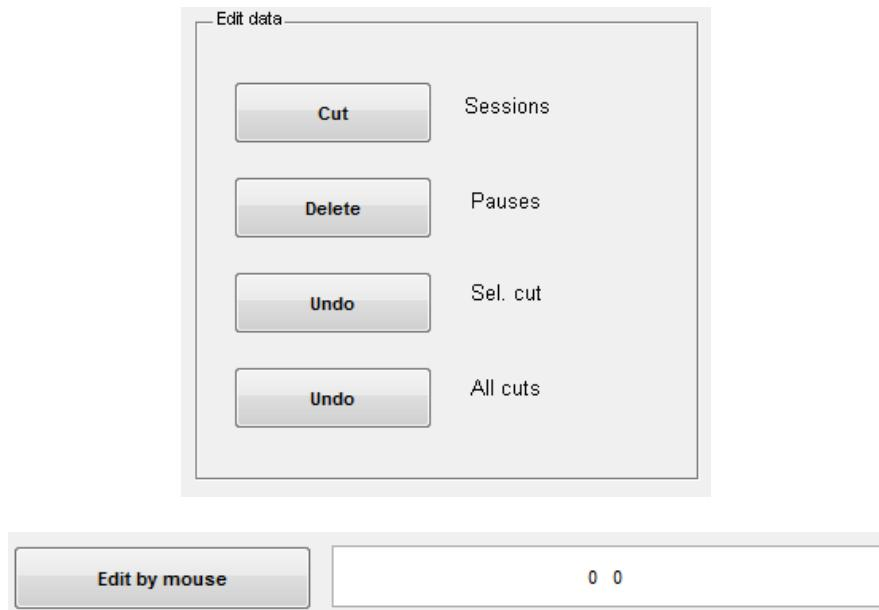
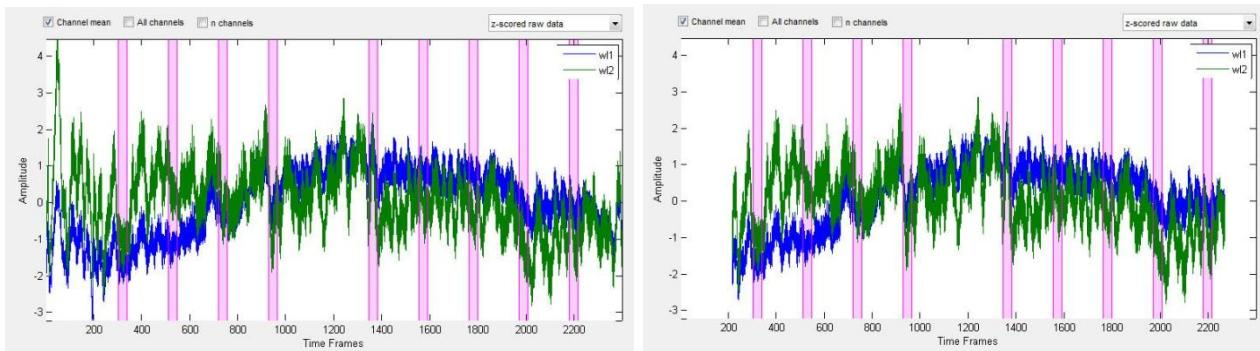
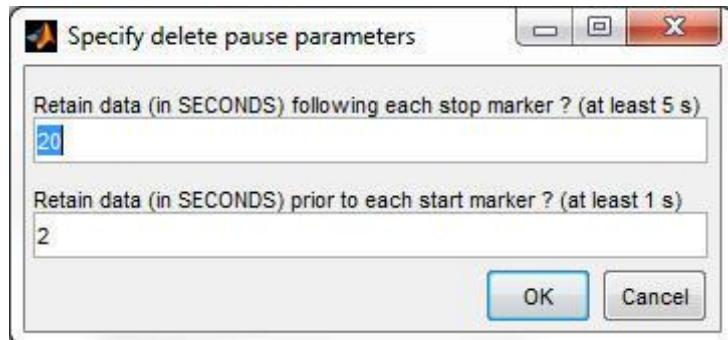

Figure 3-9. Detail views of the ‘Edit data’ module (top) and ‘Edit by mouse’ controls in the *Truncate Time series* GUI (Figure 3-4).
Figure 3-11. Time series displayed in the plot window before (left) and after (right) truncation of the first 199 and last 88 time frames.
Figure 3-15. Example of the pop-up window that opens when the *Delete Pauses* button (see Figure 3-17) is clicked.
The functions that are accessed through the 'Edit data' module and the 'Edit by mouse' controls (all shown enlarged in Figure 3-9) allow you to remove time intervals that are not relevant to you. In cases where one or more interior time intervals are removed, the data on either side of the cut are merged together into a new, shorter time series. (This is where the 'View edited TS' and 'View merged TS' options alluded to in Section 2.2 become relevant.)
As pointed out in Chap. 1, Section 4.1, the nirsInfo file keeps track of all changes that you make, and this includes truncations of the data. Consequently, you will always be able to “undo” (see Figure 3-9), either in the current nirsLAB session, or in a subsequent one, any data truncations that you perform. Furthermore, the results of all operations performed by nirsLAB are stored in the nirsInfo file or in other, new files that are generated during the data-processing sequence. The original imager-generated files ('_config.txt', '.evt', '.set', '.wl1', '.wl2') are read but never modified.
- If there are time intervals that you want to remove from either end of the data time series (e.g., initial or terminal baseline segments, as described above), click on the *Cut Sessions* button seen in Figure 3-9 to cause a pop-up window such as the ones shown in Figure 3-10 to open; notice that the time unit will match the one that you have selected in the ‘Plot options’ module. In addition, the default numerical values in the two fillable fields are equal to the amount of time that precedes the first Start marker (first row) and follows the last Stop marker (second row). (For the demo data set considered here, there are 299 measurement frames before the first Start marker and 188 following the last Stop marker. And at the 3.47 frames-per-second sampling rate, these correspond to approximately 86 and 55 seconds) That is, the default setting is that no data points should be truncated from either end of the time series.
changes in the manner shown in Figure 3-11 (where the ‘Channel mean’, ‘Markers: off’, and ‘z-scored raw data’ plot options have been selected). When you click on a row in the ‘List of All Edited time Ranges’ field (Figure 3-12), the corresponding time interval is highlighted in the plot window, as shown in Figure 3-13. If it turns out that the highlighted time interval is not actually the one that you wanted to truncate, you can cancel it by clicking on the *Undo Sel. Cut* button in the ‘Edit data’ module (Figure 3-9).
Click on the *Delete Pauses* button in the ‘Edit data’ module (Figure 3-9) to open a pop-up window such as the one shown in Figure 3-15. Note that the time unit here is always seconds. We therefore recommend that you select seconds as the time unit in the ‘Plot options’ module, so that you can use the numbers on the x-axis of the plot window to guide your selection of values to type into the number fields.
s duration for the inter-event intervals by entering '20' and '10' in the upper and lower number fields, respectively, or '10' and '20', '5' and '25', or any other combination that sums to 30. The only restrictions are that, as you can see in Figure 3-15, you must keep at least 5 seconds of data immediately following each Stop marker and at least 1 second of data immediately preceding each Start marker.
The starting and ending times, in seconds, for all time intervals marked for deletion are shown in the 'List of All Edited time Ranges' field (Figure 3-17). Clicking on any row will highlight the corresponding interval in the plot window, just as in the previously discussed *Cut Sessions* case. If a highlighted time interval is one that you do not wish to delete after all, click on the *Undo Sel. Cut* button in the 'Edit data' module (Figure 3-9) to remove it from the list.
The instructions for using the *Edit by mouse* tool are – by design – very similar to those for zooming in and out on the x-axis display range, as described in Chap. 2, Section 4.2. You may either directly type the starting and ending times for the interval that you want to delete into the *Edit by mouse* number field (Figure 3-9), or click on the *Edit by mouse* button (Figure 3-9) to activate plot-window crosshairs, which you will then use to select the starting and ending times by clicking on them. An example, illustrating the use of this approach to delete a portion of the extra-long inter-event time interval, is shown in Figure 3-18.
- Undo All cuts. Pressing the *Undo All cuts* button (see Figure 3-9) in the ‘Edit data’ module will cancel all editing operations performed in the current nirsLAB session, or in previous ones. (The *Undo Sel. Cut* function also can be applied to truncations carried out during previous sessions.)